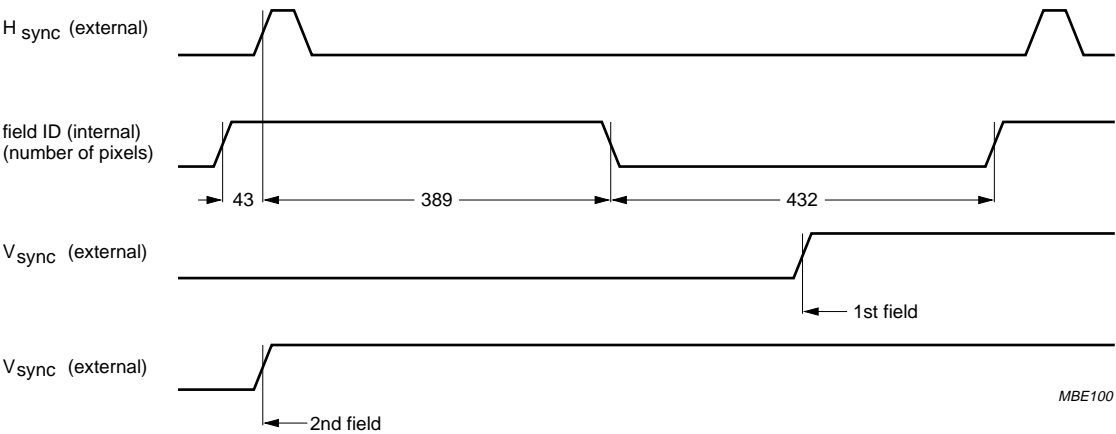

Fig.7 Vertical synchronization timing and field identification.
The MVFILT and SVFILT bits can set the type of vertical filtering. The MUVPOL and SUVPOL bits invert the UV polarity of the incoming signals. The MVSPOL and SVSPOL bits determine the active edge of the  $V_{sync}$  (see Fig.7). The MHSYNC and SHSYNC bits determine the timing of the  $H_{sync}$  pulse (burstkey or  $H_{sync}$  timing). The MFPOL and SFPOL bits can invert the field identification (ID) of the incoming fields (see Fig.7).
The DVSPOL bit determines the active edge of the  $V_{sync}$  (see Fig.7). The DHSYNC bit determines the timing of the  $H_{sync}$  pulse (burstkey or  $H_{sync}$ ). The DFPOL bit can invert the field ID of the incoming fields (see Fig.7).